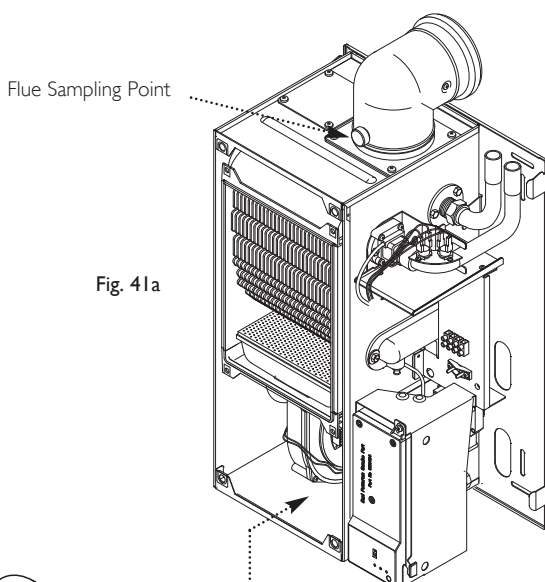

Fig. 41a
12. Check the CO/CO² ratio and CO² level at the flue sampling point (Fig.41a) as is quoted in Section 4.0, 'Technical Data'.
11. Check the CO/CO² ratio and CO² level at the flue sampling point (Fig.41a) is as quoted in Section 4.0, 'Technical Data'.